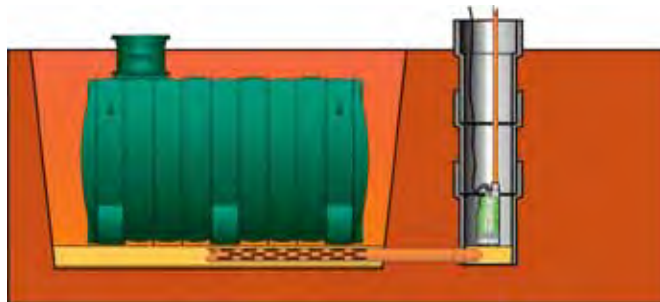

Fig. 5
• In the case of burying in landslides, clay, marshy ground, or in any case ground that does not allow deep drainage, it is necessary to ensure that rainwater does not exert pressure on the structure and that it can drain away. It is therefore necessary to require the advice of a competent technician who can calculate the buoyancy level of the ground and size a backfill. It is therefore necessary to backfill the tank and cover the bottom of the excavation with 20/30 mm washed gravel and provide a drainage system. A possible solution is shown in figure 5, which represents the construction of a water collection system by means of a drainage shaft. The collected water can be disposed of using a sewage pump to drain the bottom of the pit.